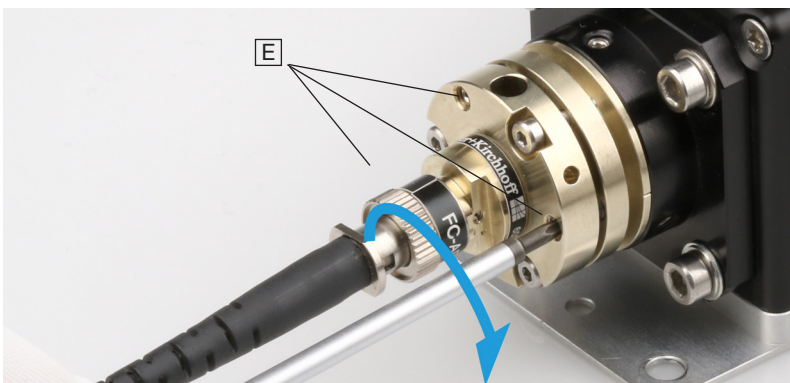

Figure 23:
Now, the locking screws are used to fine-adjust and lock the setting. First, fasten the three locking screws (grub screws, Figure 23, [E]) equally with very gentle force until you feel some resistance. Use the hex key 50HD-15. The detector at the fiber end now shows a signal, but it usually differs from the maximum signal seen before. The three locking screws are now tightened one after another, e.g. in a clockwise direction. Each screw is tightened so that the power signal is a little beyond the maximum. The procedure is repeated for each screw until two or three complete cycles of adjustment are completed. The last screw in the last adjustment round is tightened in a way, so that the detector shows maximum power at the fiber end. Please note, that the maximum torque for these screws must not exceed 50 Ncm.